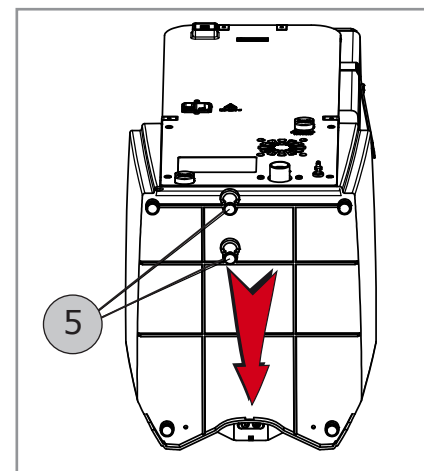

Figure 29
4. Push the lower casing forward (figure 29) so that it is released from its keyhole (5).